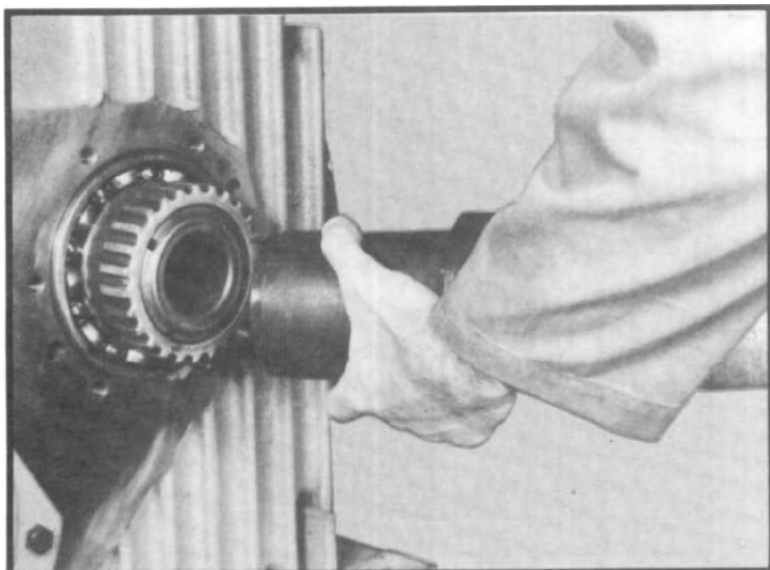

Fig. 124
- 2.15 Tighten special nut on front of lower shaft to correct torque, using a special wrench. (See tool reference, Section X and fig. 124.) With a feeler gauge, measure the end play between the gears and thrust-washers. There should be .015-.020 end play on both gears.